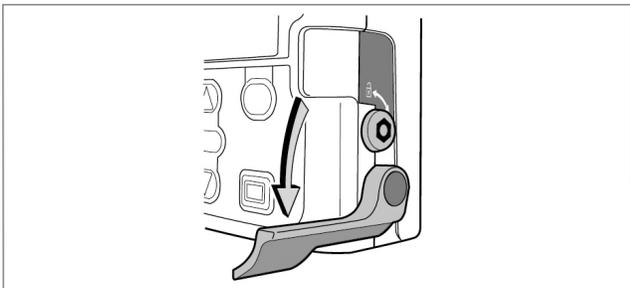

Figure 16: Detaching the cassette
4. Push down on the cassette latch until the cassette comes off. See Figure 16.